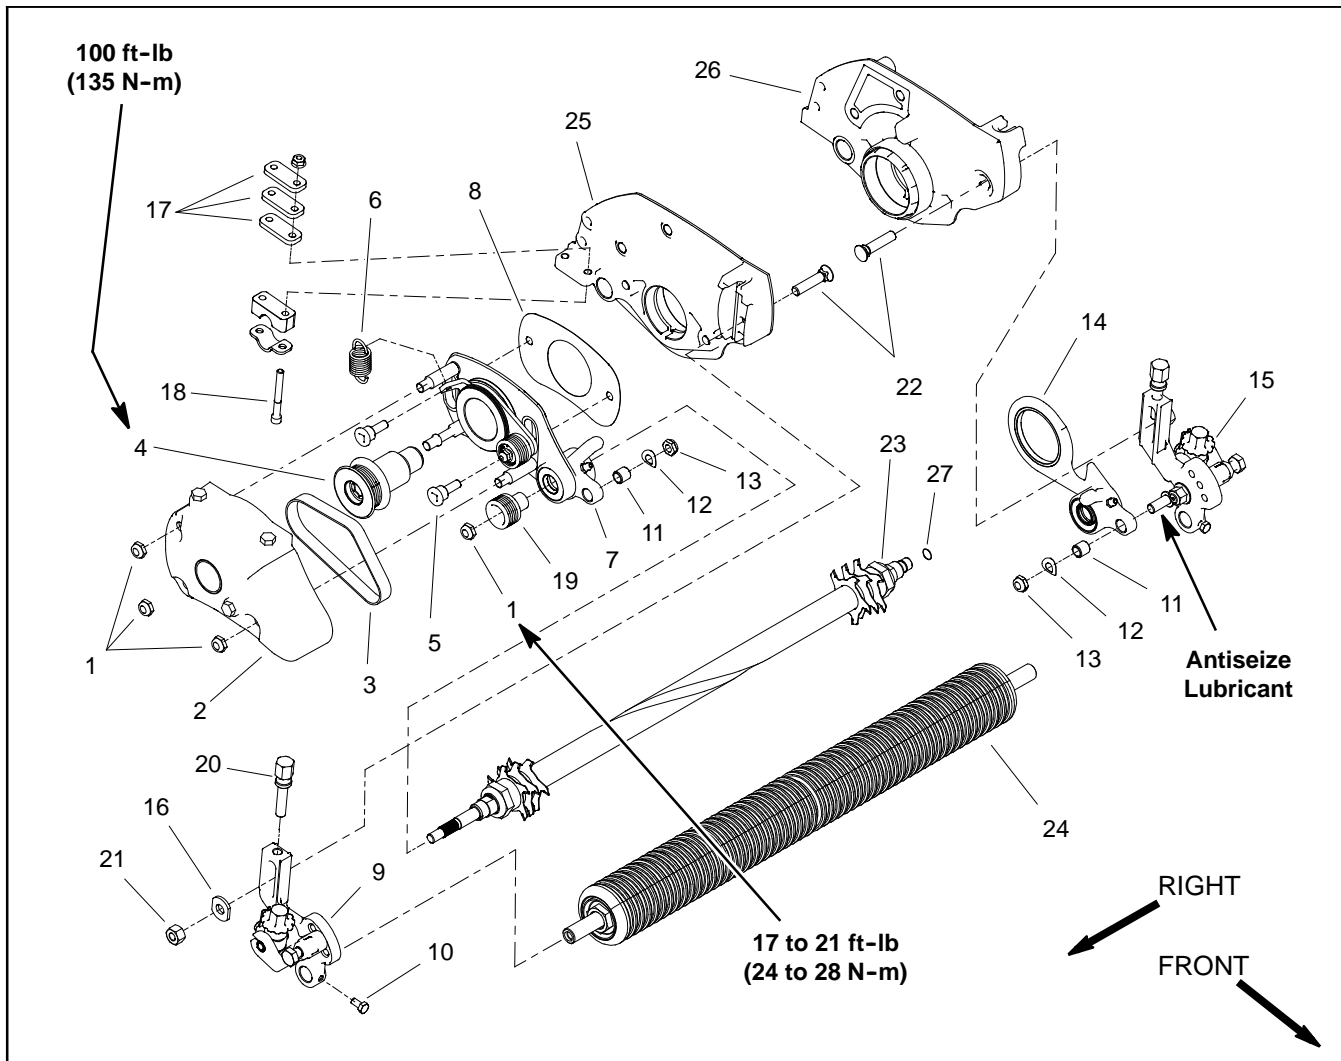
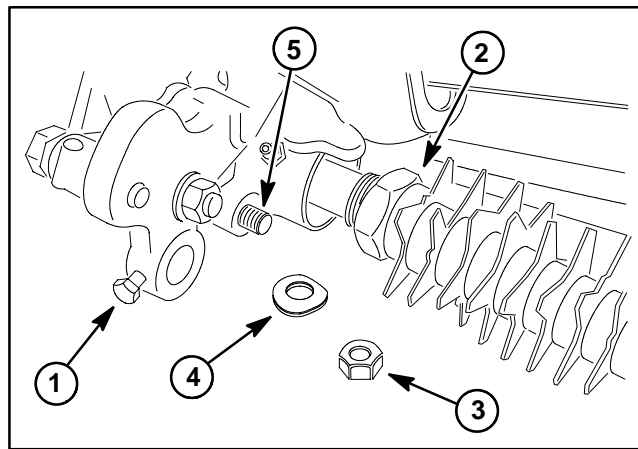

Figure 7
Figure 8
### Removal (Fig. 7)
4. Remove groomer drive cover (item 2) and groomer drive belt (item 3) from groomer drive (see Groomer Belt Replacement in this section).
5. Loosen cap screws (item 10) that secure front roller shaft to groomer arms.
6. Remove lock nut (item 13) and spring washer (item 12) that secure RH groomer arm lift rod to RH drive plate assembly. Location of these items are shown in Figure 8.
7. Remove lock nut (item 21), special washer (item 16) and plow bolt (item 22) that secure RH groomer arm assembly to RH drive plate assembly. Do not change height-of-cut screw adjustment. Remove RH groomer arm assembly from cutting unit.
**NOTE:** To prevent grooming reel shaft from turning when removing driven pulley (item 19), use wrench on shaft flats to hold shaft.
9. Remove the lock nut (item 1) that secures driven pulley (item 19) to grooming reel shaft. Remove driven pulley from shaft.
**NOTE:** To prevent cutting reel from turning when removing drive pulley (item 4), block reel with piece of wood.
10. Loosen and remove drive pulley (item 4) from the cutting reel shaft.
11. Remove two (2) shoulder bolts (item 5) that secure the RH drive plate assembly to the cutting unit frame. Remove the groomer drive plate assembly from grooming shaft and cutting unit. Locate and retrieve groomer shim (item 8).
**Installation (Fig. 7)**
2. Make sure that O-ring (item 27) is installed on grooming shaft. Apply light coating of grease to O-ring.